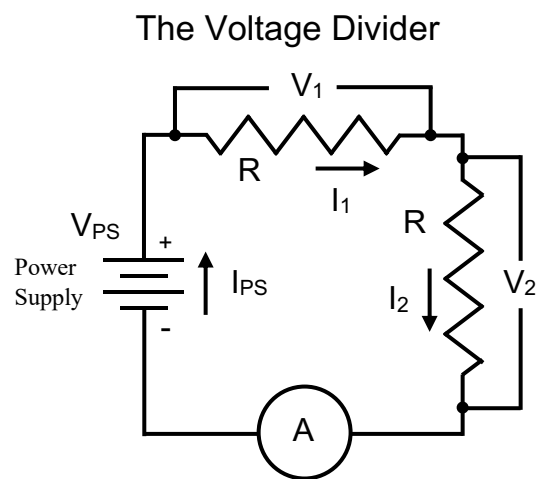

Figure 9.5
Consider the circuit shown in Figure 9.5. It is a circuit with 2 resistors in series. In electronics lingo it is called a “voltage divider”. You will see why this is as you measure its characteristics.
1. Set up the circuit shown in Figure 9.5. You will need to include an ammeter as shown. You will also need to use the low current port of the ammeter, switching back from the high current port you used with the light bulb. You will be measuring voltages across each of the two resistors using a voltmeter.